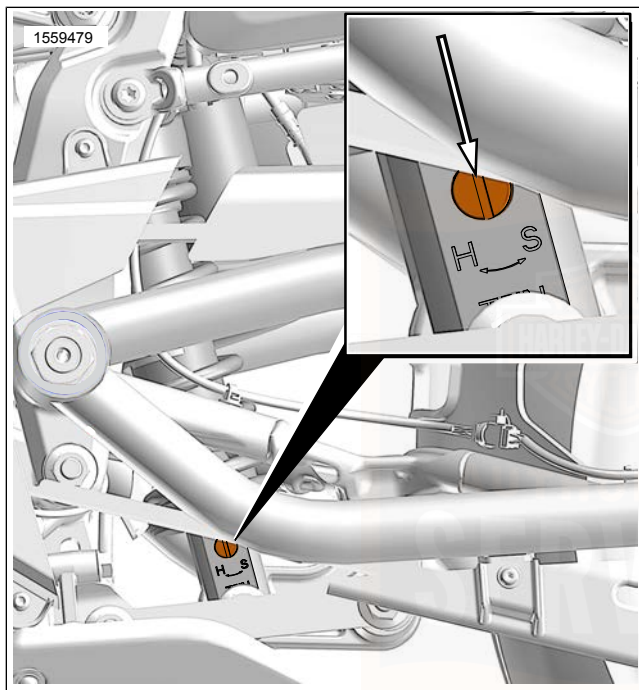

Figure 19. Rebound Adjuster
1. See Figure 19. Use a flat blade screwdriver to turn rebound adjuster clockwise in the H (hard) direction until it stops. This is the maximum rebound damping setting.